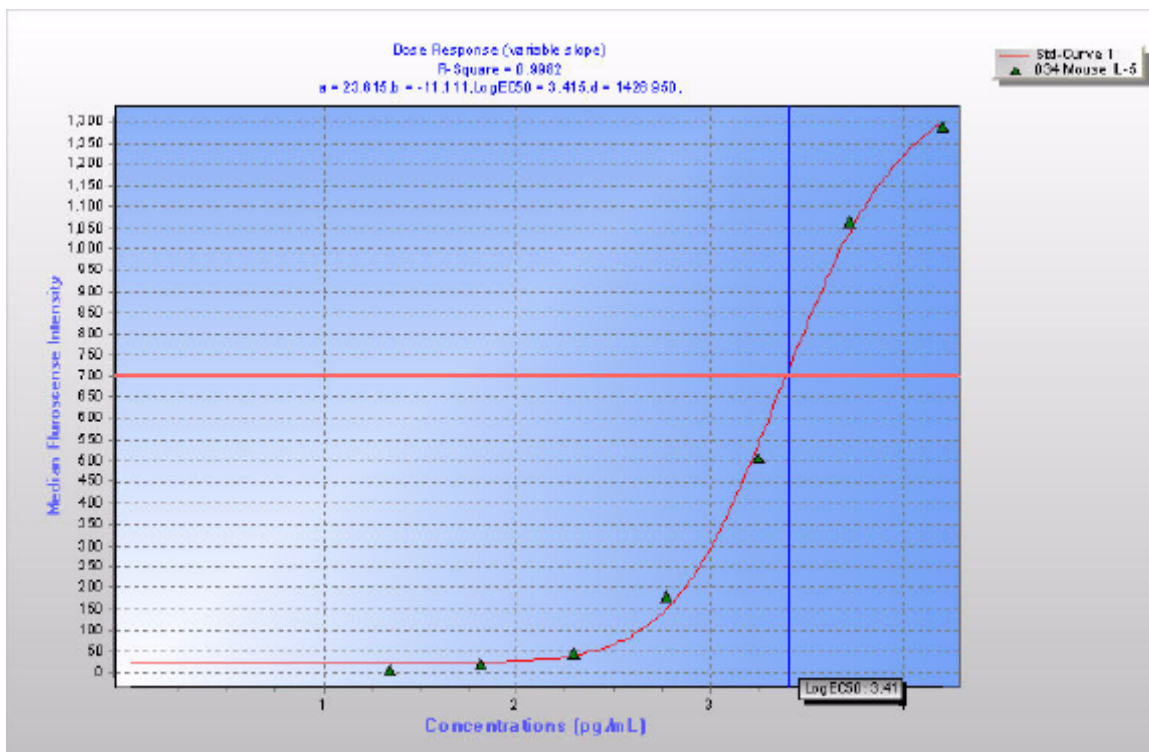

Figure 6.13 Dose-Response curve
11. To view the Dose-Response curve, click the **Standard Curves** button . The Dose-Response curve shows the agent dose (independent variable) on the x-axis and the response (interpolated concentration) on the y-axis (Figure 6.13). It displays the parameters of the model equation and the LogEC50 value.